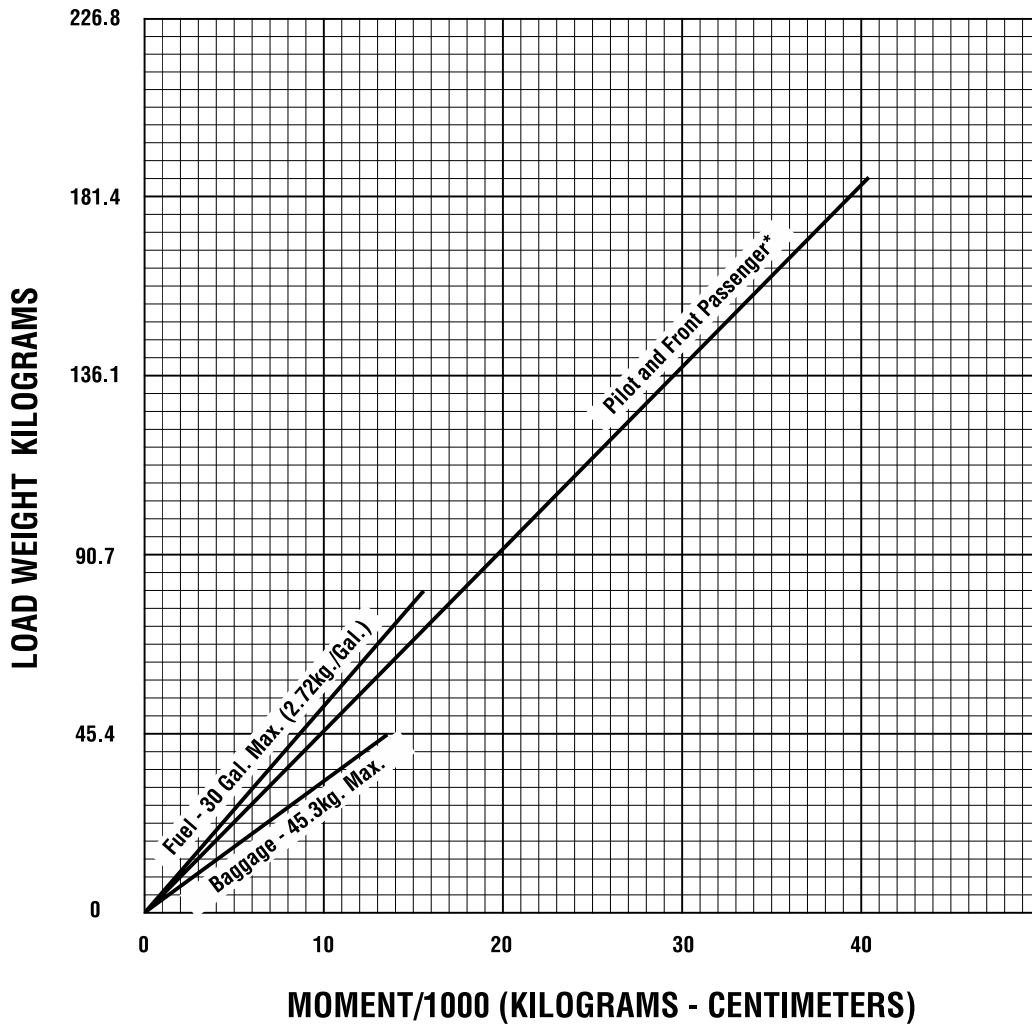

Fig. 11-3. Loading Graph.
- Use the Loading Graph (Figure 11-3) and Seat Position table (Figure 11-4) to determine the moment of all items to be carried in the aircraft;